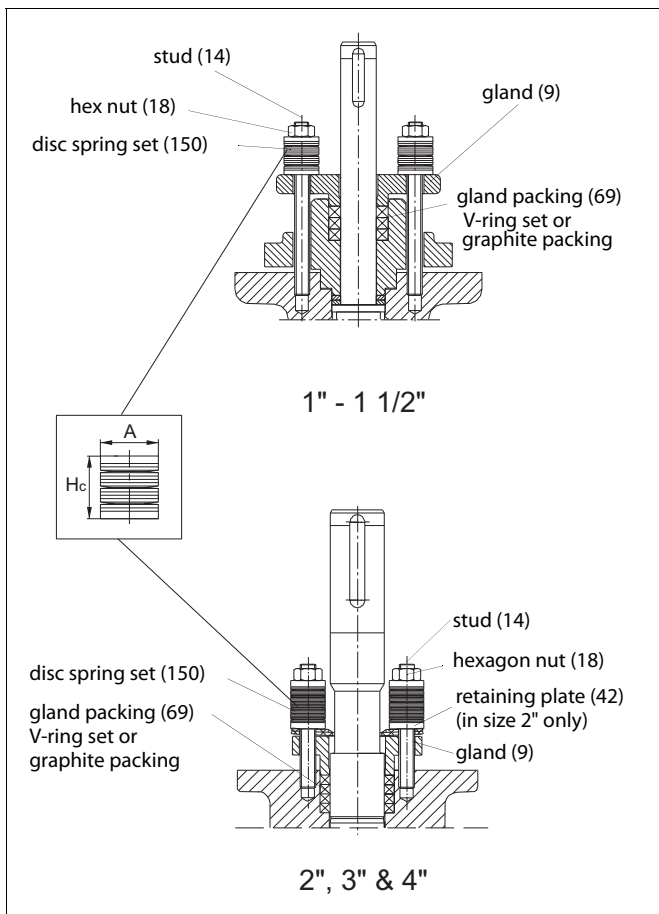

Fig. 14 Gland packing
- ☐ Remove the key (10).
- ☐ Remove the hexagon nuts (18), disc spring sets (150), one stud (14) and retainer plates (42, size 2" only) and gland (9).
- ☐ Remove the packing rings (69) from around the shaft using a knife or other pointed instrument. Make sure that there is no damage to the shaft or the counterbore. Please note that the thrust ring (67) may come off as you remove the packing. It should be placed back in its position before installing the new packing.
- ☐ Place the new packing rings (69) over the shaft (5). The gland (9) may be used for pushing the rings into the counterbore. Do not damage packing rings in the shaft keyway. See Fig. 14. Screw down the removed stud.
- ☐ Remove the gland nuts and one stud, mount the retainer plates (42, size 2" only) and the removed stud and place the disc spring sets (150) on the gland studs. Tighten the nuts (18) so that the disc springs are compressed to the height H_c , see Table 1. Lock the nuts with locking compound e.g. Loctite 221. See Fig. 14.